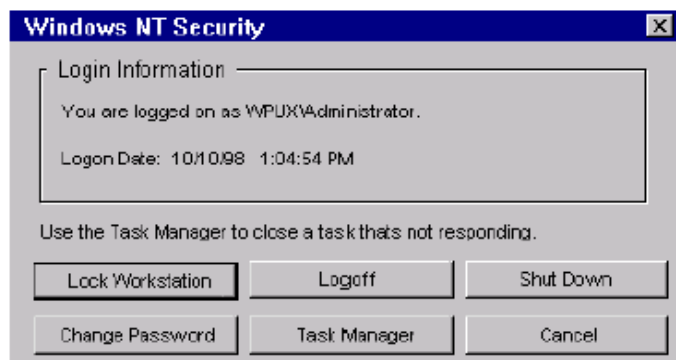

FIGURE 1-5. Windows NT Security
- 1.15 Using the keyboard connected to the NM6400, press Ctrl+Alt+Delete to display the Windows NT Security dialog box as shown in FIGURE 1-5.